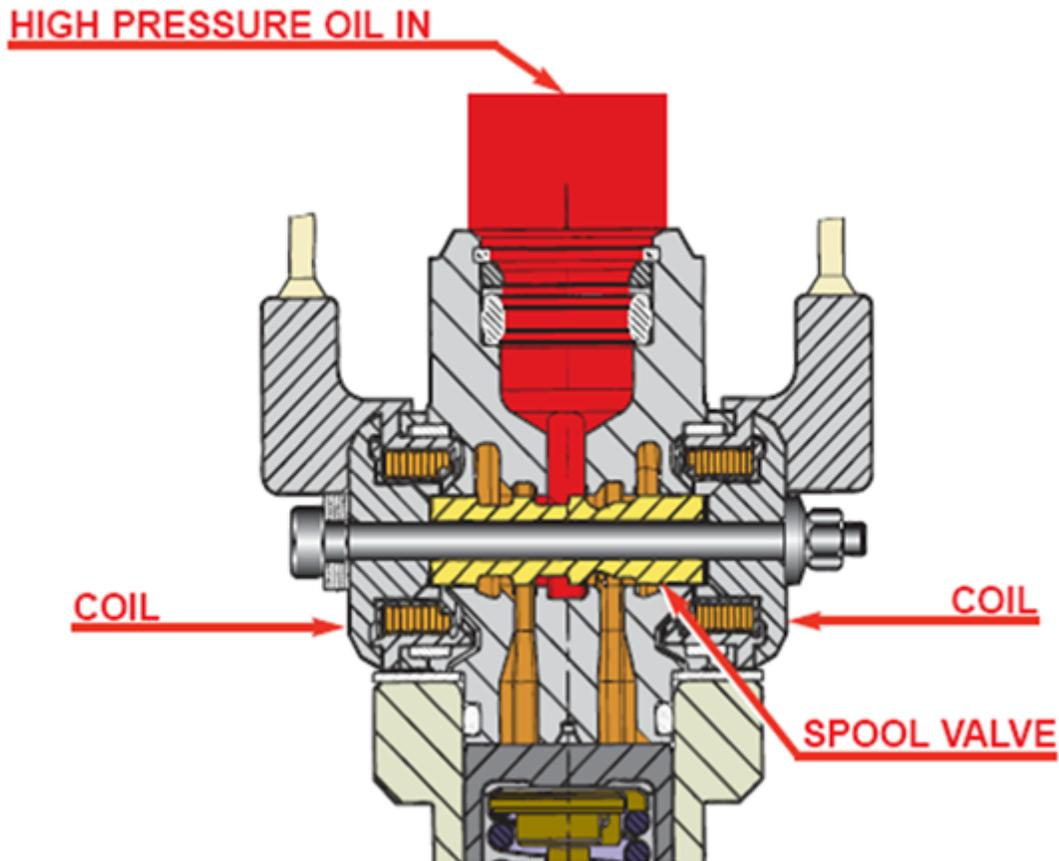

Figure 1
6.0L Injector Spool Valve Operation (refer to figure 1) – the spool valve is located in a bore in the stator housing; coils and coil housings positioned on both ends of the stator housing serve as end caps to seal the assembly and limit spool valve travel (0.432 mm). An open coil on one side of the stator housing and a close coil on the other are alternately energized during engine operation to move the valve horizontally. The spool valve has two positions — movement of the valve positions the valve over drillings in the stator housing which either (1) allow high pressure oil from the oil rail into the injector high pressure oil pumping chamber, or (2) allow pressure in the high pressure oil chamber to collapse and oil to exhaust from the injector. Open coil energization allows high pressure oil into the high pressure oil pumping chamber; close coil energization allows oil to exhaust from the pumping chamber; when neither coil is energized, the valve will remain where it was last positioned (in figure 1, below, the close coil is shown on the left side, and the spool valve is in the closed position; also note the gap between the spool valve and the open coil on the right side).